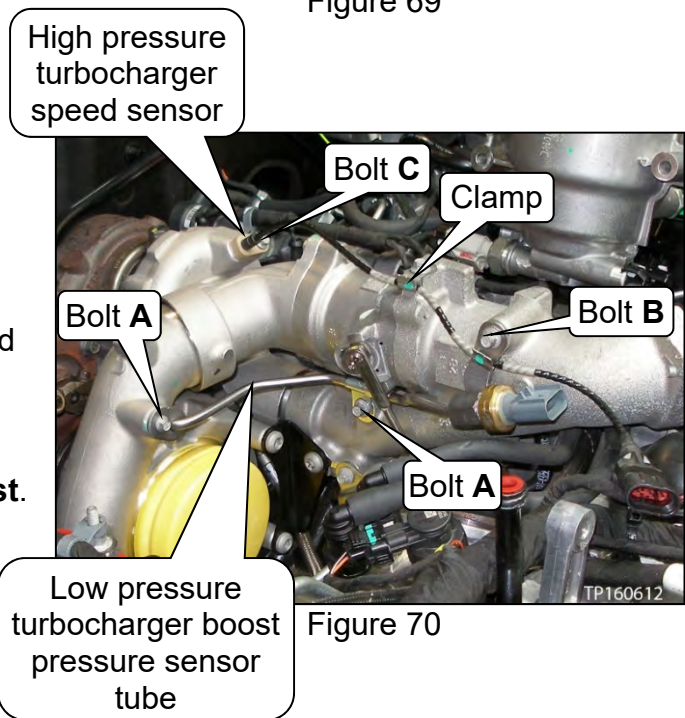

Figure 70
12. Install the low pressure turbocharger boost pressure sensor tube (see Figure 70).
13. Install the high pressure turbocharger speed sensor (see Figure 70).